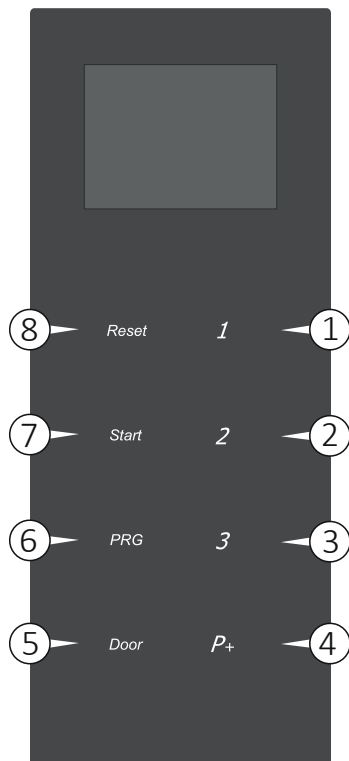

Fig. 16
- Start the machine using the ON-OFF switch and open the door with the DOOR key (Fig. 16) on the control panel to introduce the basket.
- Close the door and push it until the lock is activated. The door can be unlocked and opened at any time before the program starts, by pressing the DOOR key (Fig. 16).
To select the programs available, use key P1, P2, P3 or P+ on the control panel (Fig. 16).
After selecting the program with relative key, the display shows the selected program and the operating time and temperature. To start a program, press the START key (Fig. 16).
The message «Successfully completed» on the display indicates that the program has been carried out correctly. Unlock the door by pressing the DOOR key (Fig. 16) and open it.
- 2) With the machine started and door closed, the screen for selecting the programs will appear. Press the selected key (P1, P2 or P3 Fig. 16) on the control panel. To access subsequent programs (if stored), press the key **P+** several times.
- 4) Optional: enter the user password: use the key P1, P2, P3, **RESET**, **START** and **PRG** on the control panel to digit the correct password (See Fig. 16 for key description).